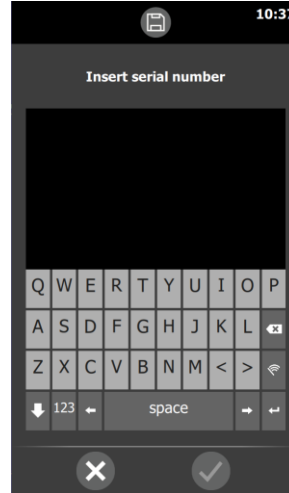

Figure 12
- The input limitations for Serial Number entry shall be 1 line with a maximum of 20 characters per line. (Figure 12)